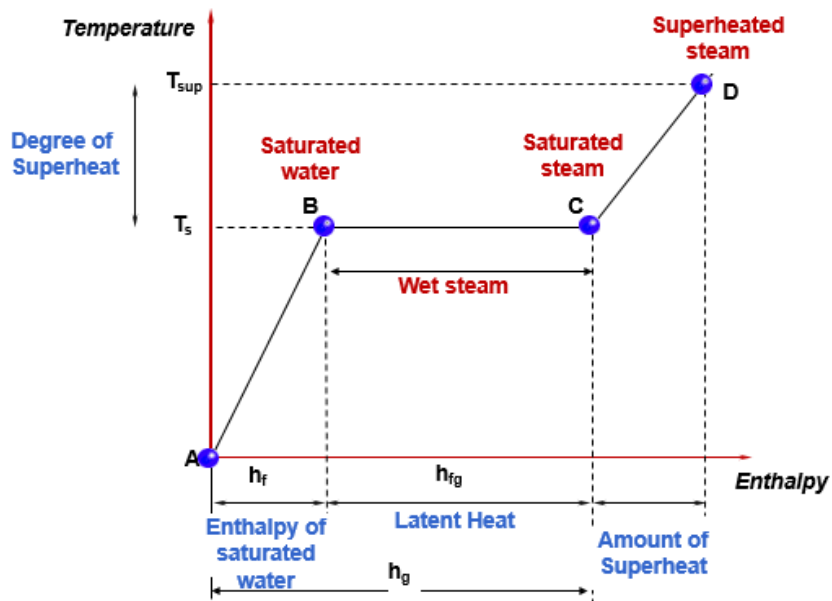

Fig.1.3: Temperature-Enthalpy Diagram
1.1. A chosen weight is placed over the piston so that the total weight of the piston and the chosen weight exert the required constant pressure “P” on the water. This condition of water at 0°C is represented by the point “A” on the Temperature-Enthalpy graph as shown in Fig.1.3.